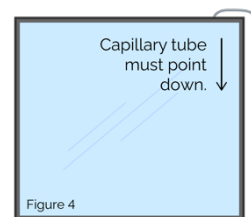

Figure 4
4. **INSTALL:** Install the IGU into the window opening and ensure the capillary tube is in the top corner and pointing downwards as shown in Figure 4.